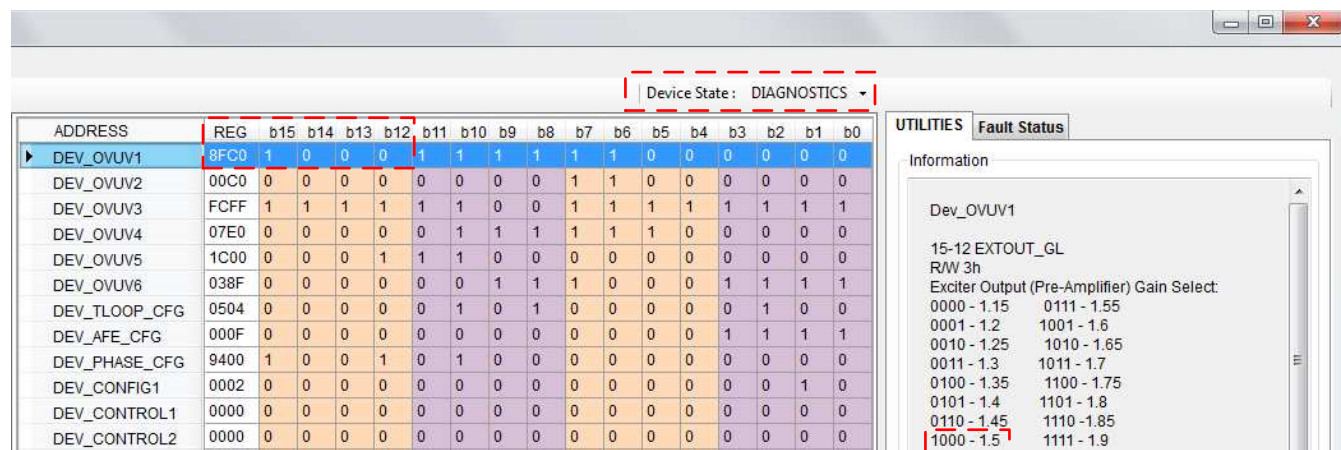

Figure 19. DEV_OVUV Register
- Step 2. Change the state of the device to DIAGNOSTICS mode. Refer to Figure 19 and Section 2.3.2.
- Step 5. Click on the DEV_OVUV1 address inside the register map as shown in Figure 19. Text should appear in the *Information* box on the *UTILITIES* tab. This box displays information regarding the bits in the DEV_OVUV1 address.